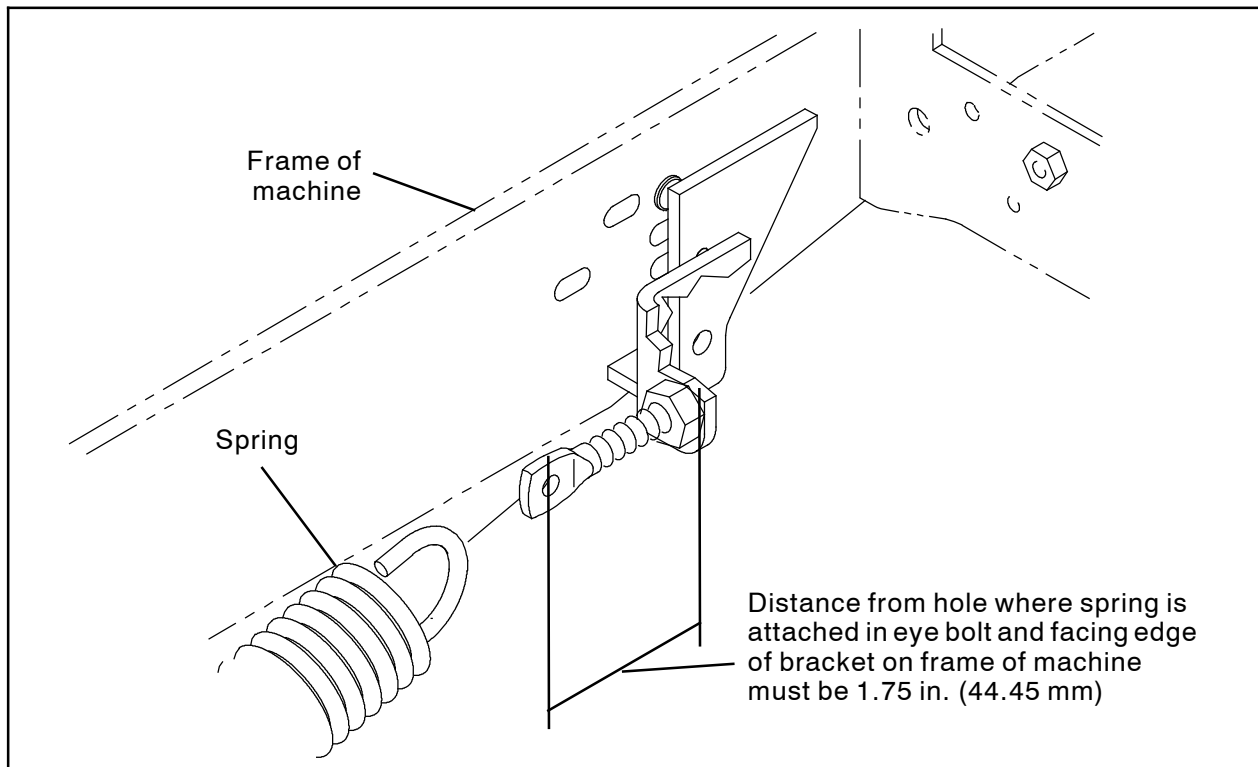

FIG. 3
16. Use saved hardware to reconnect the spring to the frame of the machine. Adjust the eye bolt on the frame of the machine as shown in Fig. 3.